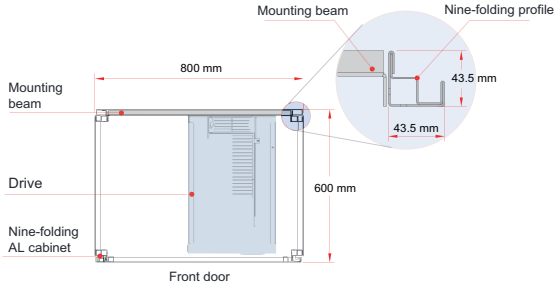

Figure 3-15 Top view of a 200-450 kW cabinet
- 1) A nine-folding AL cabinet (PS cabinet) is recommended. Figure 3-15 shows the cross section of the nine-folding AL cabinet.